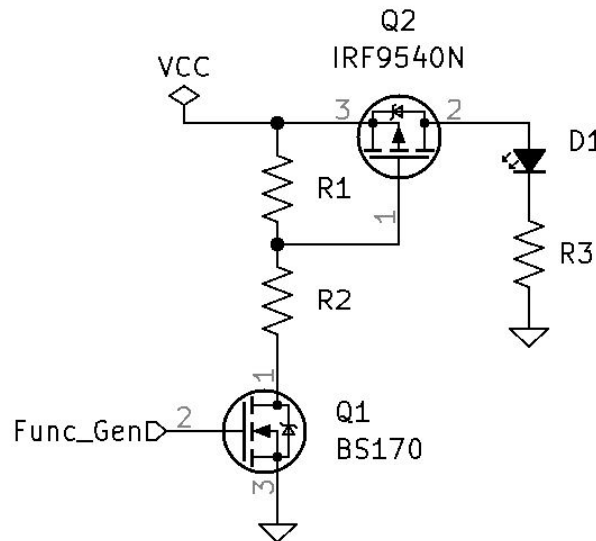

Figure 10.2: Switch Test Circuit 2
4. Design a circuit to test the switching ability of the IRF9Z24N. See *Switch Test Circuit 2* Figure 10.2. Make $VCC = 40V$.